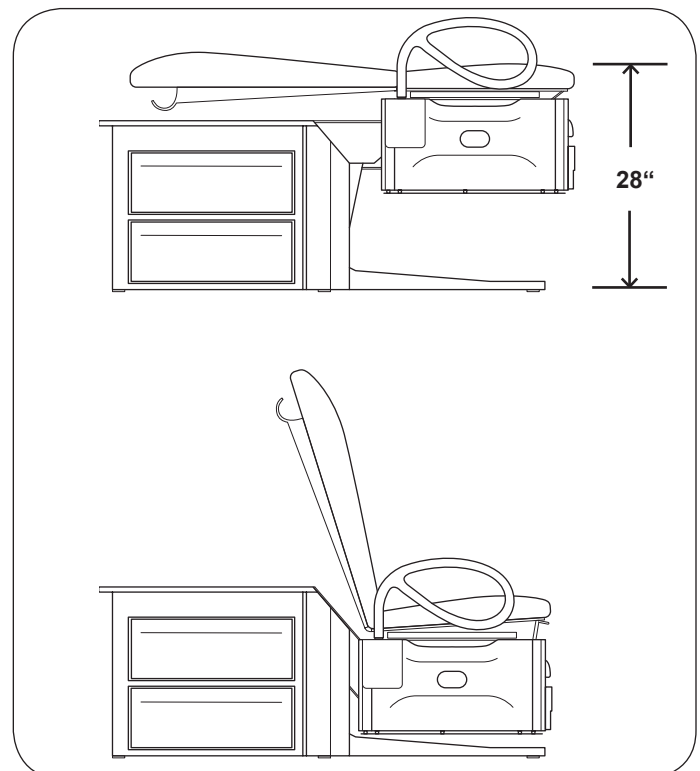

Figure 37. Adjusting Seat Back
NOTE: The table must be raised to a height of at least 28" before the backrest can be adjusted to the horizontal position. (See Figure 37.)
1. Raise the table to a minimum of 28" (Figure 37).